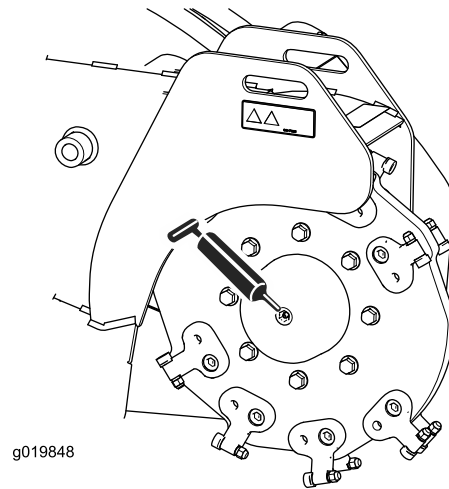
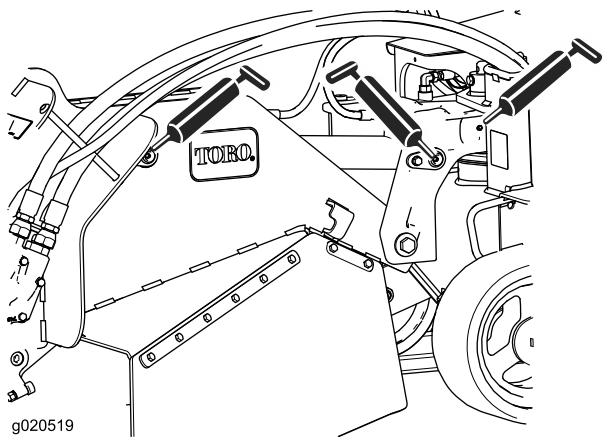

Figure 26
Figure 28
- Connect a grease gun to each fitting (Figure 26 through Figure 28).